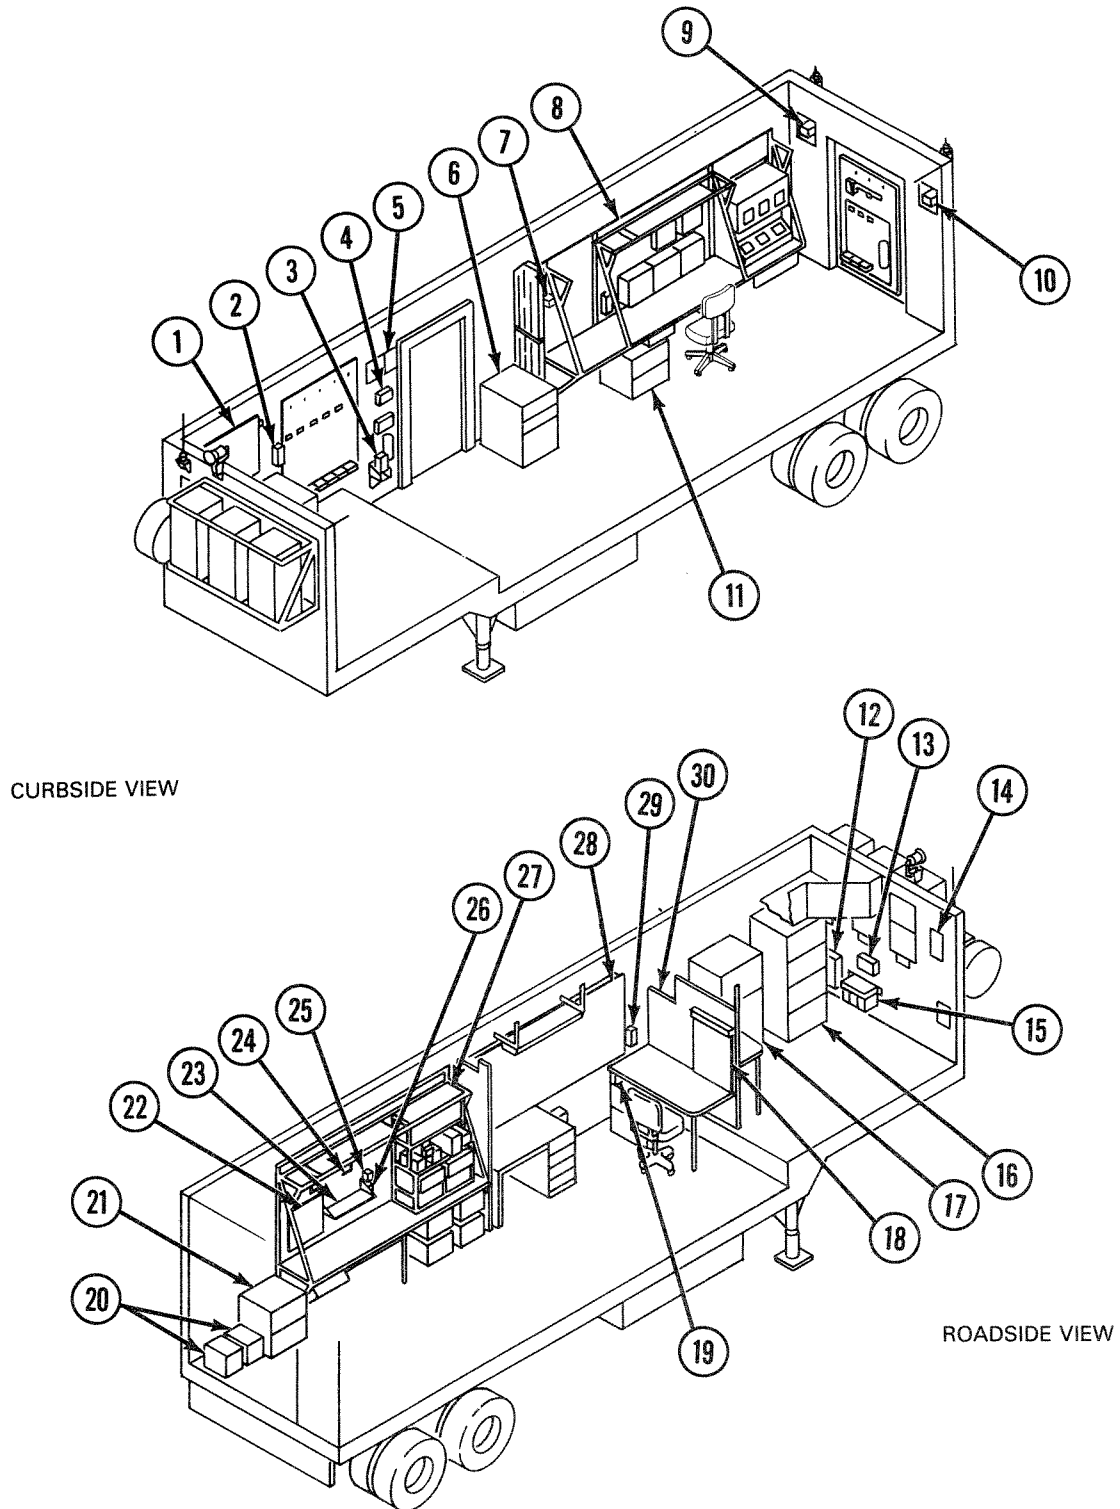

Figure 2-26. BCC Major Interior Features
b. Interior Features. Figure 2-26 shows BCC major interior features.